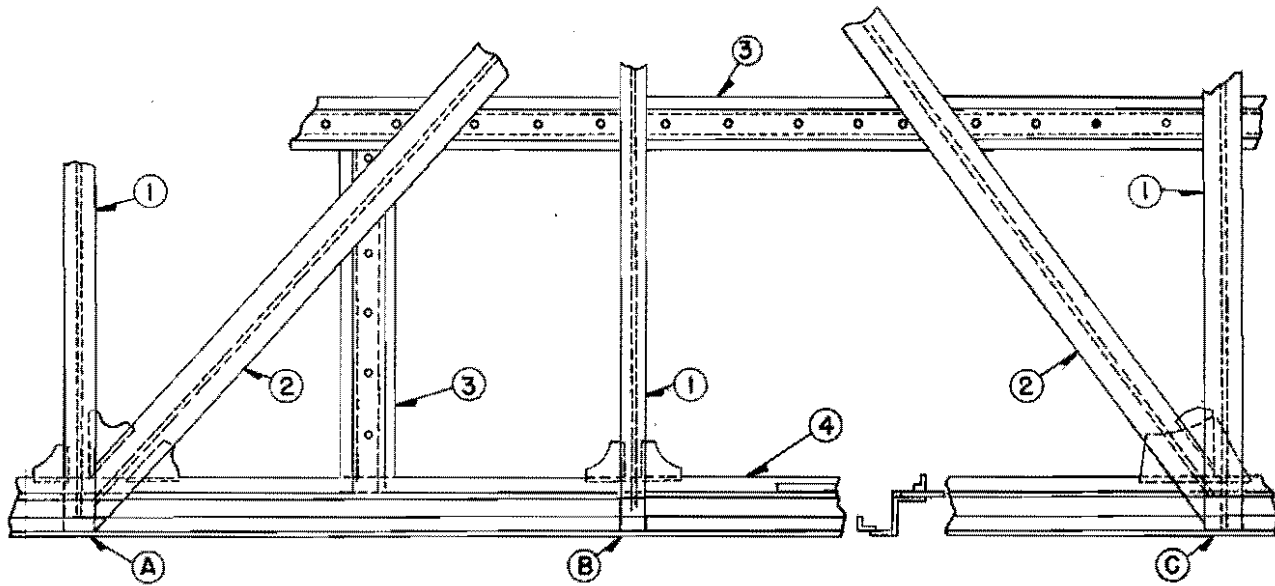

Fig. 4 - Carbody Frame Repair
Figure 3 shows a typical splice in the side sill "Z" bar. Diamond patches are recommended. The side sill "Z" bar is the structural member extending the length of the locomotive on the bottom outer side and to which the side carbody frame members are welded as shown in Fig. 4.
If a side sill "Z" bar, Fig. 4, Item #4 outer flange only is damaged, repair by straightening. If "Z" bar flange and web is damaged, remove damaged section between framing members such as "A" and "B," and splice in a new section. If side sill is buckled, as between "A" and "C," remove gussets and detach items 1, 2 and 3 in the
A damaged flange may be straightened or repaired as indicated in Fig. 3. Damaged side panel support members, Item 3 of Fig. 4, should be replaced since slight bends in these members results in an exaggerated wave effect in